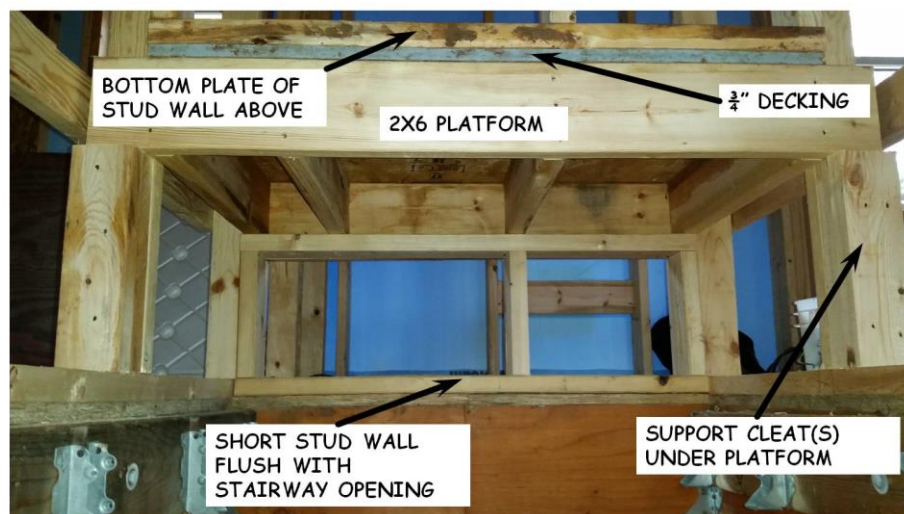

Figure 6-8. Closet Platform.
3. Build a 27”x40” platform with 2x6 joists (16” o.c.) and ¾” OSB decking as shown in Figure 6-8. The stairway opening is typically 40” wide. Adjust the platform width if necessary to fit between the walls. The 2x6 that bridges the stairway opening on the cantilevered end should be 46” long so that it can be firmly supported with blocking or a